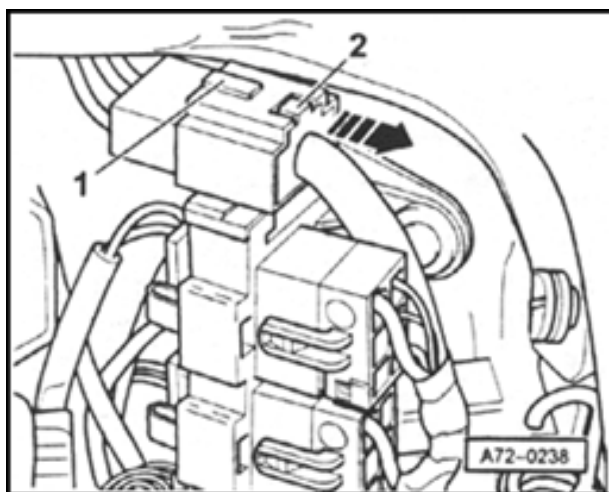

Fig. 2 Disconnecting connector for side airbag (from m.y. 1999)
- Disconnect igniter and Ground (GND) wire from side airbag ⇒ Fig. 2 .